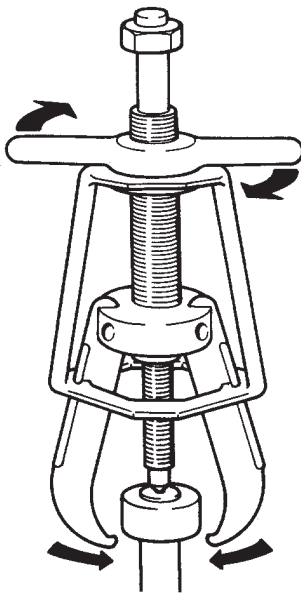

Figure 3
5. Turn the T-Handle clockwise to tighten the jaws firmly onto the component. (See Figure 3.)
4. Place the puller over the component to be pulled. (See Figure 3.) When only the inner bearing race is remaining on the shaft, clean the shaft first with emery cloth and then attach the jaws in the ball groove.